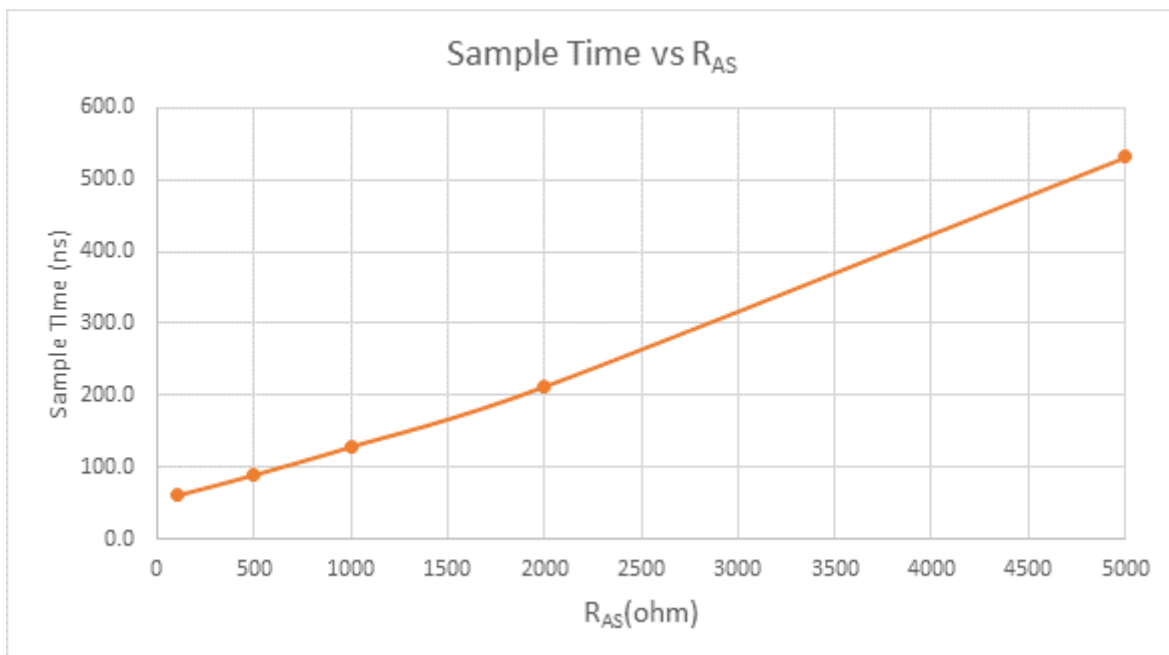

Figure 33. Sample time VS.  $R_{\text{AS}}$
4 See Figure 33, "Sample time VS. RAS".
- 4 See Figure 33, "Sample time VS. RAS".